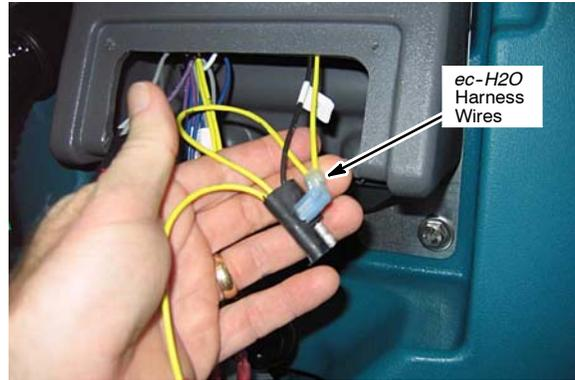

Fig. 22
- Route the remaining console wires from the ec-H2O wire harness to the lower control panel (Figure 22).